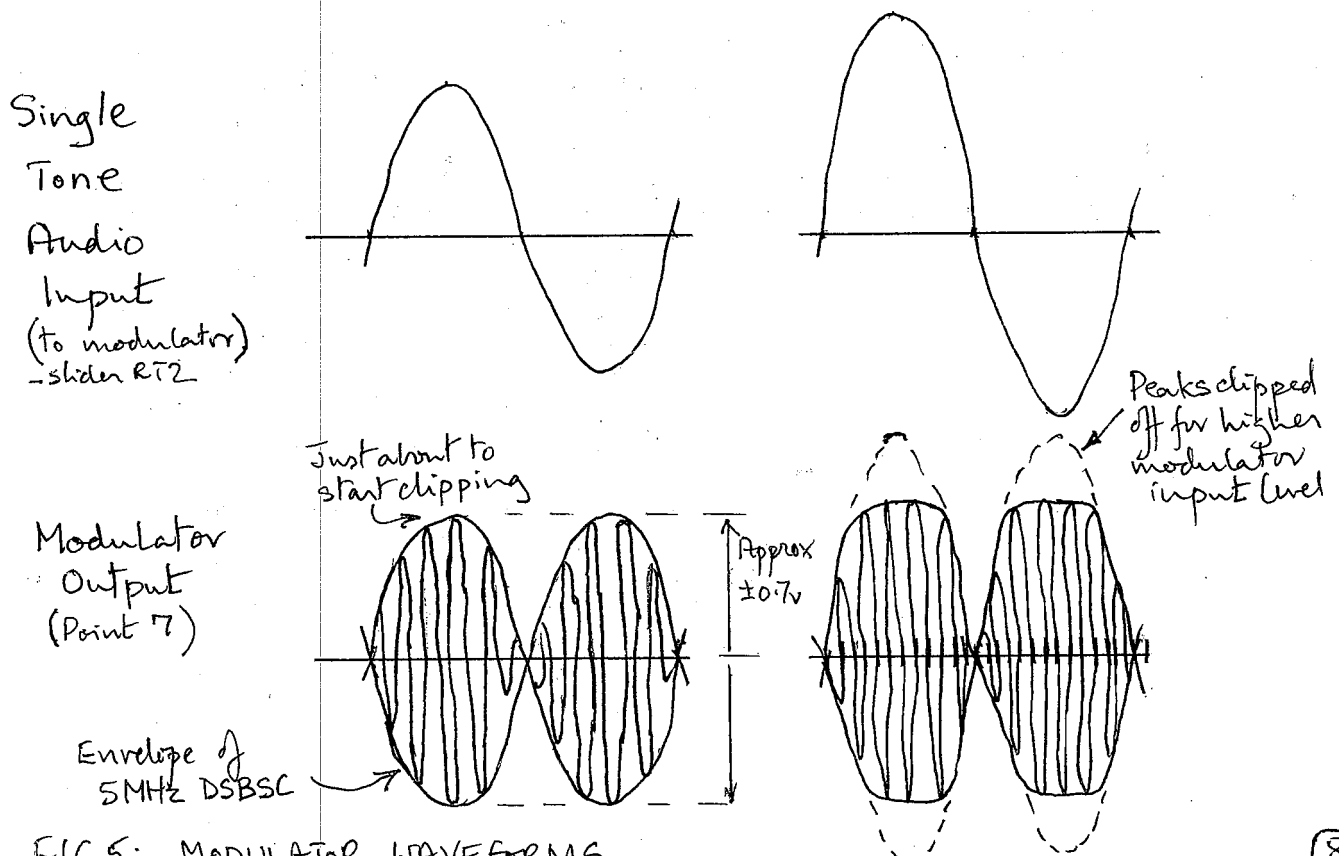

FIG 5: MODULATOR WAVEFORMS
*Clipping* This cannot be done at audio because the inevitable harmonics caused by clipping low frequency signals (say at 500 Hz) would be within the audio band, so removing them would also remove the rest of the wanted input signal leading to poor speech quality. Instead, the audio signal modulates a 5 MHz carrier so that all the harmonics (at 10 MHz upwards) caused by clipping can be easily removed with a simple 5 MHz low pass filter. The mixer chip IC2 (NE602 or 612) uses its own oscillator section to generate the 5 MHz signal and produces a Double Sideband Suppressed Carrier (DSBSC) signal at its output which carries the basic audio modulation. Fig. 5 shows the waveforms for a single audio input tone (to make it easier to understand) - the lower left diagram showing that tone modulating the 5 MHz carrier, the lower right diagram showing the same signal but with a higher input level so that the peaks of the envelope of the 5 MHz carrier are clipped off. Once the base level of audio amplification is correctly adjusted with RT1, further increases of input signal level occurring with a higher setting of RT2, will cause the excessive peaks to be removed by the diodes D1/2 while not altering the lower levels - so that the average to peak signal ratio is increased achieving compression and improved 'punchiness'. The use of 5 MHz avoids any RX interference problems
Testing this part is a little harder if you don't have a scope! You need to assess the signal on point 7. The DC voltage here should be about 4 to 6 volts with negligible AC signals under no audio input conditions. Set RT1 midway and RT2 right back. With audio input there should be 5 MHz amplitude modulated signals without any steady carrier - for a single tone audio input it should be like the lower part of Fig. 5, if you have a scope. For a 10 mV p-p single tone input, as you advance RT1 there should be up to about 1.5 volts p-p of modulated signals at 5 MHz which can be observed on the scope or heard on a general coverage RX (with its antenna over this kit) tuned to 5 MHz. Alternatively connect your mike to the input point I. While talking into the mike, gradually advance RT1 till its just below the point where the peak of the signals cease to increase any more. This will be near the optimum setting when in use finally. Switch off and fit the remaining filter and demodulator parts:-